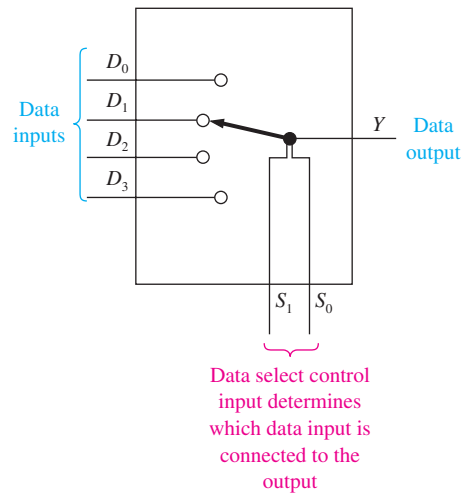

Figure 44 Functional diagram of a four-line multiplexer.
A **multiplexer** is a device capable of funneling several data lines into a single line for transmission to another point. The multiplexer has two or more digital input signals connected to its input. Control signals are also input to tell which data-input line to select for transmission (data selection). Figure 44 illustrates the function of a multiplexer.
The multiplexer is also known as a *data selector*. Figure 44 shows that the *data select control inputs* (S_1 , S_0) are responsible for determining which data input (D_0 to D_3) is selected to be transmitted to the data-output line (Y). The S_1 , S_0 inputs will be a binary code that corresponds to the data-input line that you want to select. If $S_1 = 0$, $S_0 = 0$, then D_0 is selected; if $S_1 = 0$, $S_0 = 1$, then D_1 is selected; and so on. Table 5 lists the codes for input data selection.
Use VHDL to design a 4-line multiplexer similar to Figure 44. Test its operation by creating a waveform simulation file that alternately routes each of the inputs to the y output.